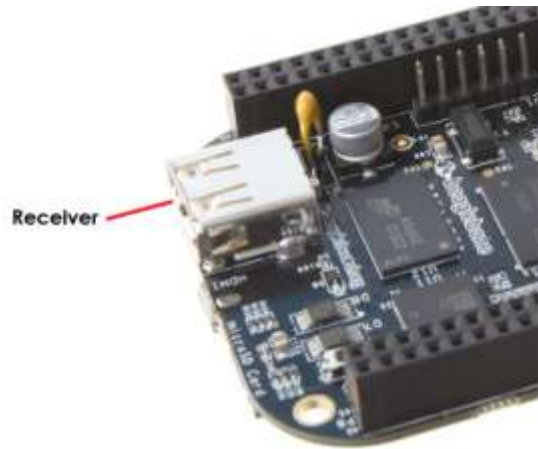

**Figure 8. DVI-D to HDMI Adapter**
2. If you have a DVI-D monitor you must use a DVI-D to HDMI adapter in addition to your HDMI cable. An example is shown in **Figure 8** below from two perspectives.